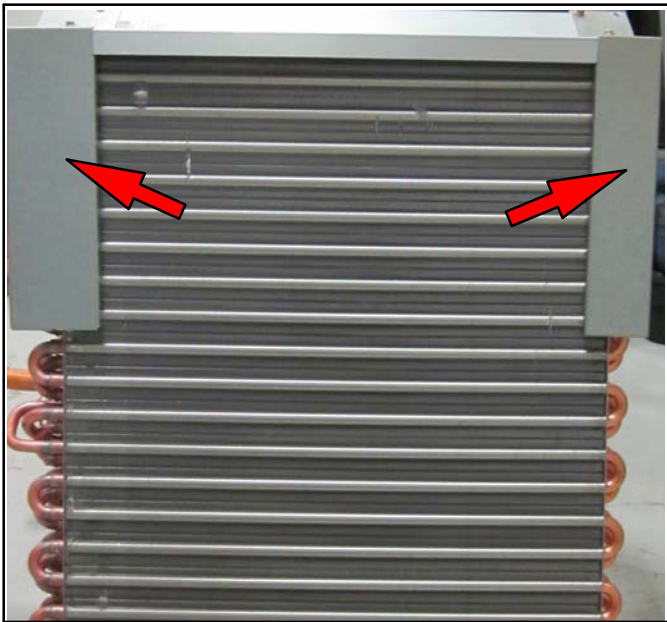

Figure 28. Reinstall the Top Cap. Brackets Must Cover the Hairpins
5. Rotate drip pan 180° and reinstall on coil as shown by the arrow above. Reinstall the top cap. Rotate the blow-off prevention brackets 180° and reinstall using the same screws. Use the correct mounting holes; the brackets must cover the hairpins. See figure 28.